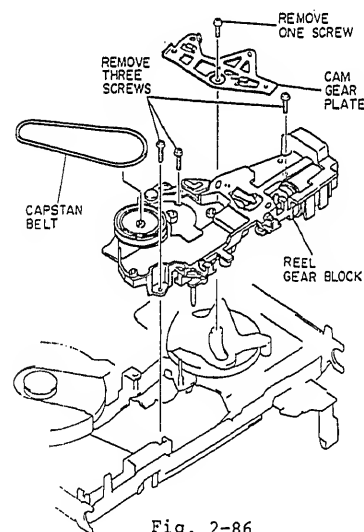
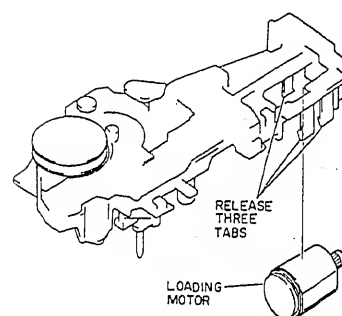

Fig. 2-86
Fig. 2-87
1. Remove the capstan belt from the reel gear block. (See Fig. 2-86)
2. Remove one (1) screw holding the cam gear plate.
3. Remove three (3) screws holding the reel gear block.
4. Release three (3) tabs holding the loading motor. (See Fig. 2-87)